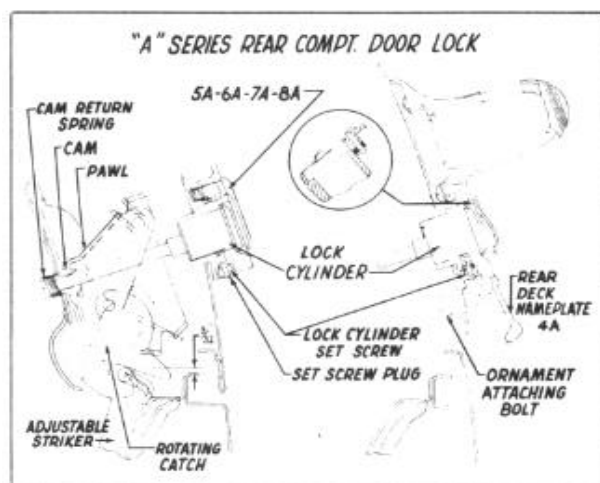

FIGURE 111
2. Use a small center punch to spot center position for 1/16" drill and drill out drive screw, Figure 111. The drive screw has an over-all length of 1/4".
**NOTE: If it is necessary to replace the door lock cylinder cover, refer to the insert, Figure 111, covering the 4A Series installation and the arrow indicating the 5A, 6A, 7A and 8A Series installation.**
**NOTE: The striker is positioned properly when the top of the striker is 3/32" above the top of the channel on the rear compartment panel, Figure 111.**